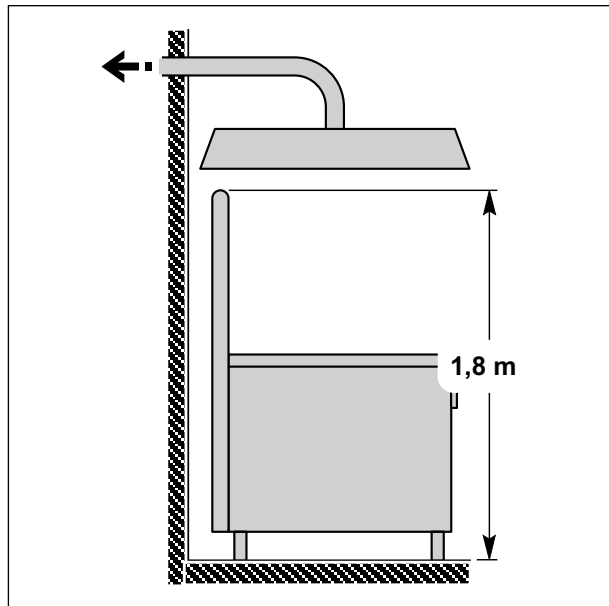

Fig. 17 Fume extraction through extraction hood
- The final part of the appliance extraction duct must be about **1.8 m** from the appliance support surface; the outlet of the combustion product extraction duct must be placed within the basic perimeter of the hood (see Fig. 17 Fume extraction through extraction hood);